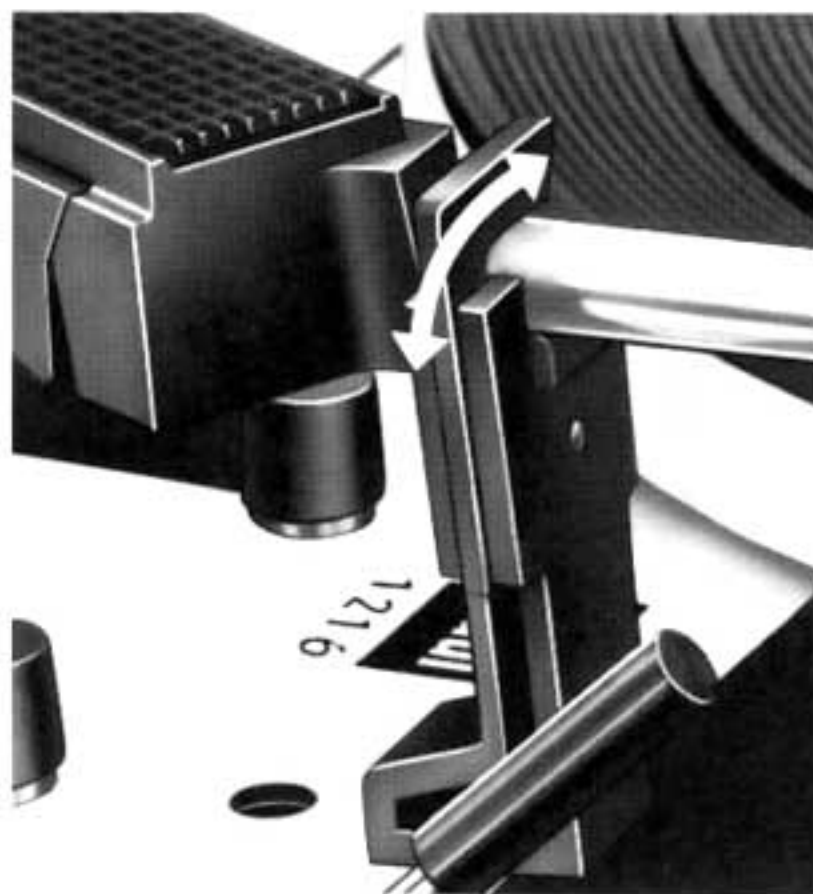

Fig. 7
Select the appropriate turntable speed ②, set the record size selector ⑬ to 7", 10" or 12" resp. (17, 25 or 30 cm), depending on the size of the record you want to play, and unlock the tonearm (Fig. 7).
Note: After a single record has played, or after the last record in a stack has played, the tonearm will return automatically to its rest and the motor will shut off. It is advisable then to lock the tonearm on its rest (Fig. 7).